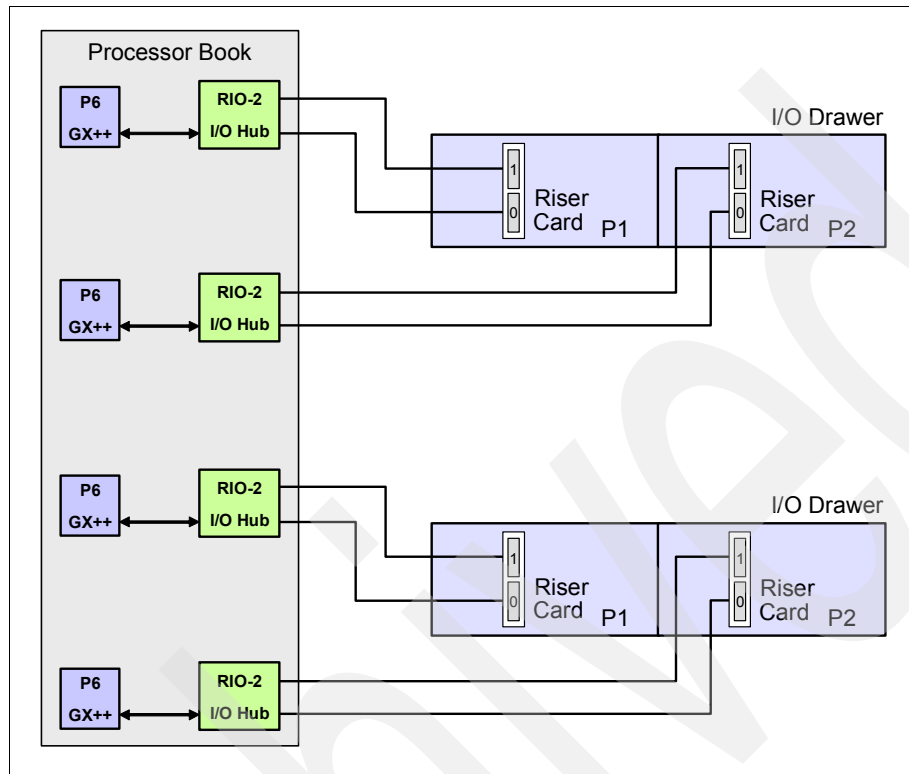

Figure 3-35 Dual loop I/O drawer (FC 5791)
- ▶ Dual-loop (Figure 3-35 on page 160) mode connects each of the two I/O planars (within the I/O drawer) to the CEC on separate loops. Dual-loop connection requires two I/O hub attachment adapters (#1814 or #1816) per connected I/O drawer. With a dual-loop configurations, the overall I/O bandwidth per drawer is higher.
Each of the two internal I/O drawer planars can be cabled and addressed by an I/O hub individually using the preferred, dual loop (half drawer) cabling, as shown in Figure 3-35.